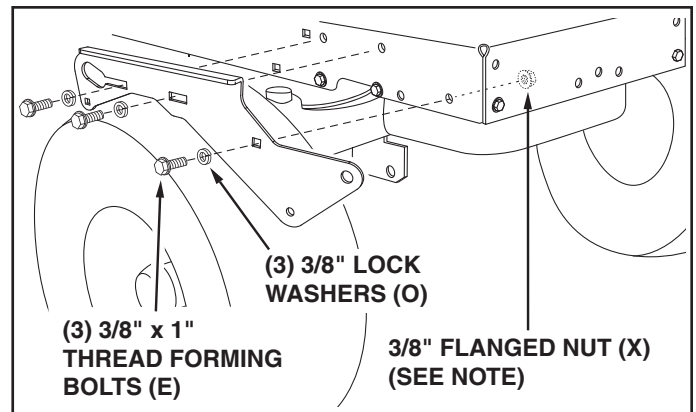

FIGURE 23 RIGHT SIDE VIEW
STEP 24: (SEE FIGURE 23)
- Fasten the R.H. Side Plate (bend facing out) to the three holes shown in the tractor frame. Use three 3/8" x 1" thread forming bolts (E) and 3/8" lock washers (O). Tighten all bolts and repeat for the L.H. side.